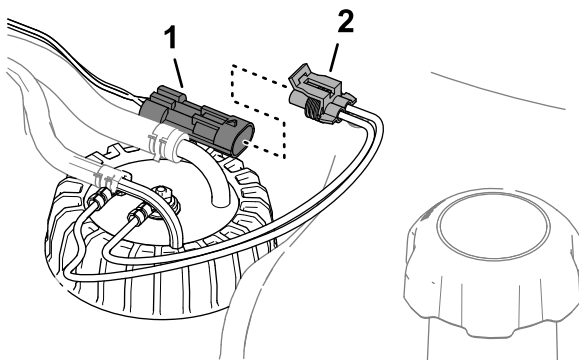

Figure 88
3. Remove the 2-socket connector of the fuel-sender harness from the 2-pin connector of the machine wire harness (Figure 88).